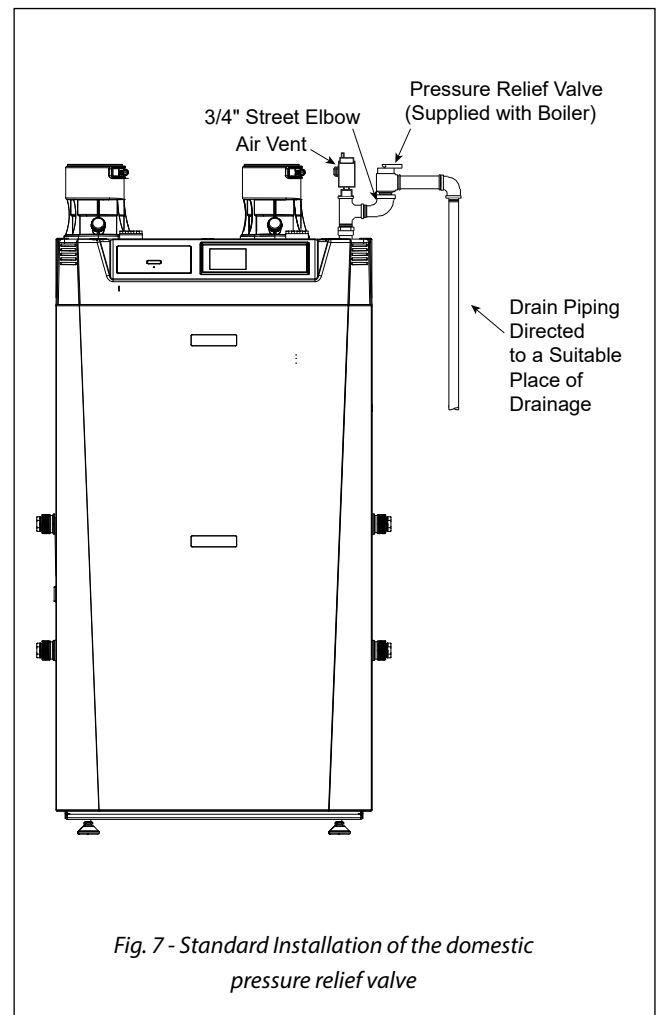

Fig. 7 - Standard Installation of the domestic pressure relief valve
1. The Instinct FSB is supplied with a 30 psi pressure relief valve and must be piped using the PRV connection as shown in *Fig. 7 below*.